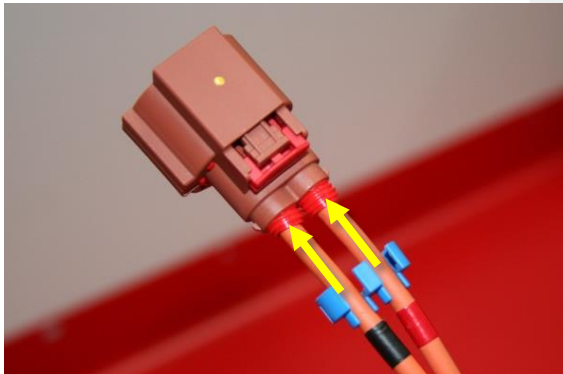
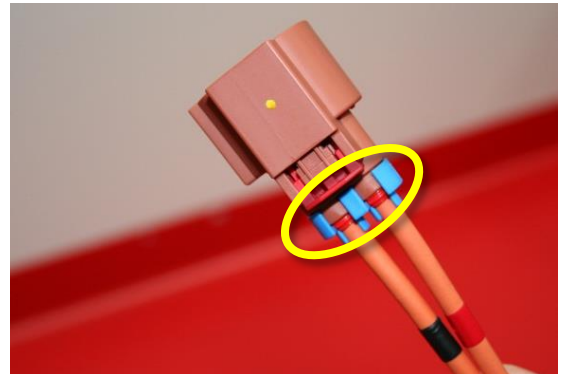

Figure 14
Figure 15
13. Push the outer seal rings into the connector (Figure 14) before securing the connector wire holder clip (Figure 15).